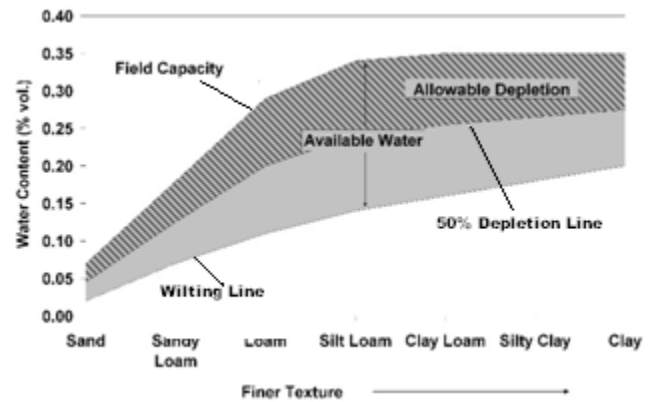

Figure 2. The amount of allowable depletion, or the readily available water, represents about 50 percent of the total available water.
- Allowable Depletion (readily available) is the point where plants begin to experience drought stress. Depending on soil type, the amount of allowable depletion for pumpkins and squash is about 50 percent of the total available water in the soil (Figure 2).